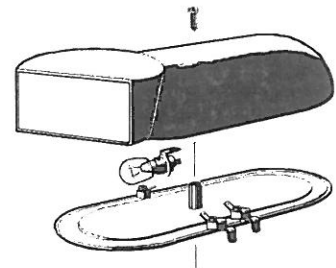

figure 18
- 3 Replacement of lighted top cover bulb: remove the fix screw placed in the upper part of the top cover, remove lower part and replace the bulb (using a 24-28V 21W r bulb). Reassemble the top cover and replace the fix screw.(see figure 18)